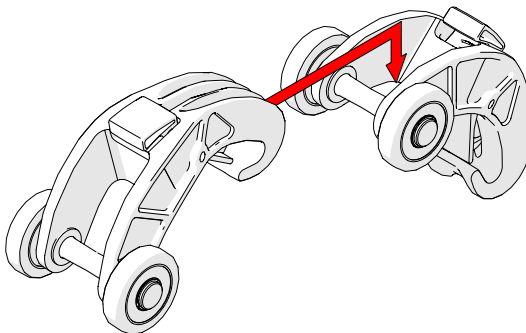

Fig. 55 - Lift the hook over the axle of the QuickLink
1. Lift the hook of the QuickLink over the axle of the QuickLink that is to be connected (Fig. 55).